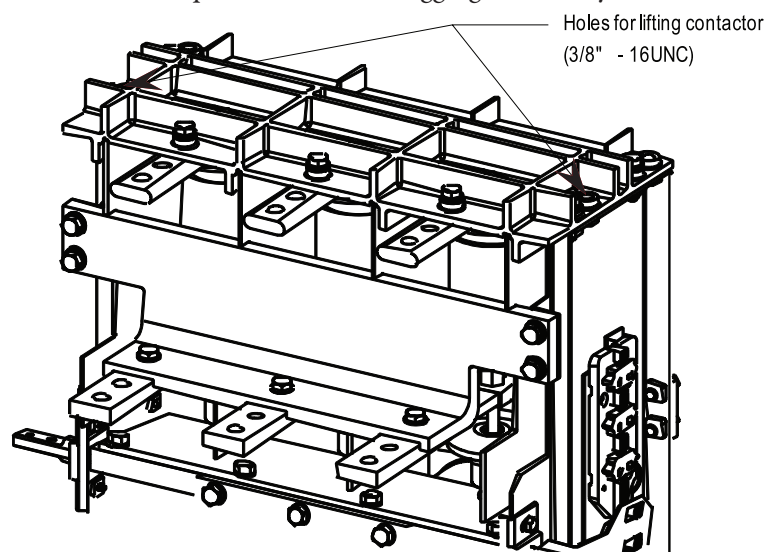

Figure 2.1 – Lifting Holes
1. Insert two (2) 3/8"-16 UNC lifting bolts into the holes provided on the top of the contactor (Figure 2.1) and attach the lifting means to the contactor with ropes or cables. Use rigging with safety hooks or shackles.